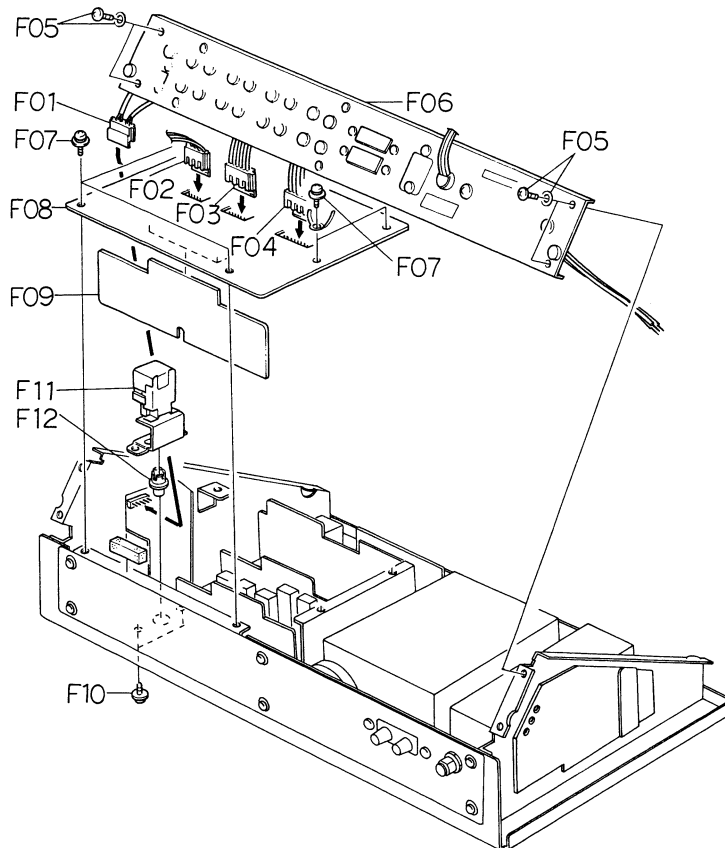

Fig. 3.12
Refer to Fig. 3.12. Remove cabinet ass'y referring to item 3.1.